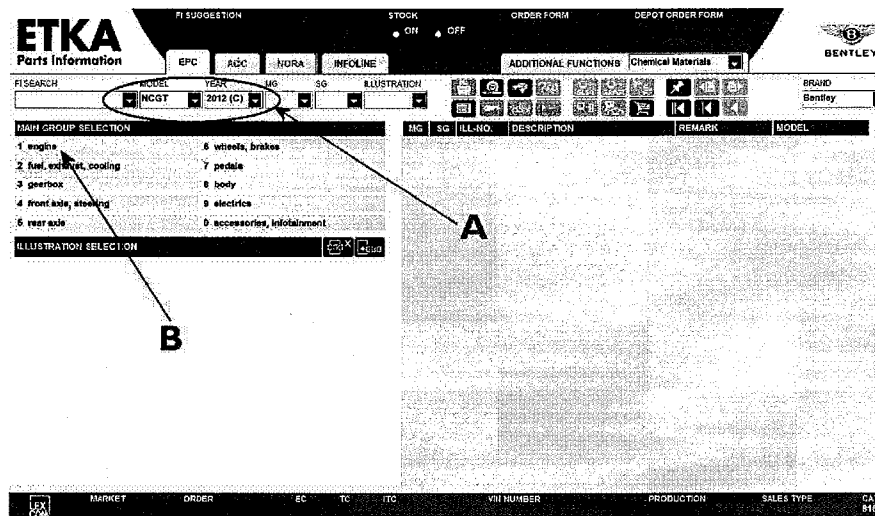

Figure 6
Figures 6 and 7 shows the required information regarding how to search for the specific 12 model year parts (listed in onward instructions) without using the actual VIN of the 04 to 06 M/Y vehicle
- 3. Referring to Figure 6 - When searching for any of the listed parts in ETKA – select NCGT and 2012 (Point A)